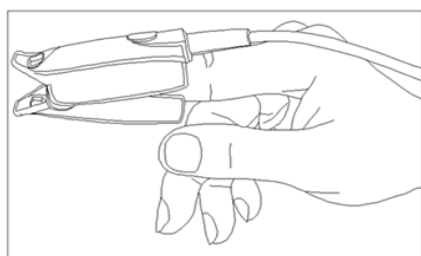

Figure 1 Finger Clip Probe
2. For Adult Finger Clip SpO₂ Probe, insert one finger (index finger is preferred, but middle or ring finger with proper nail length is possible as well) into the probe according to the mark on the probe clip, as shown in Figure 1.